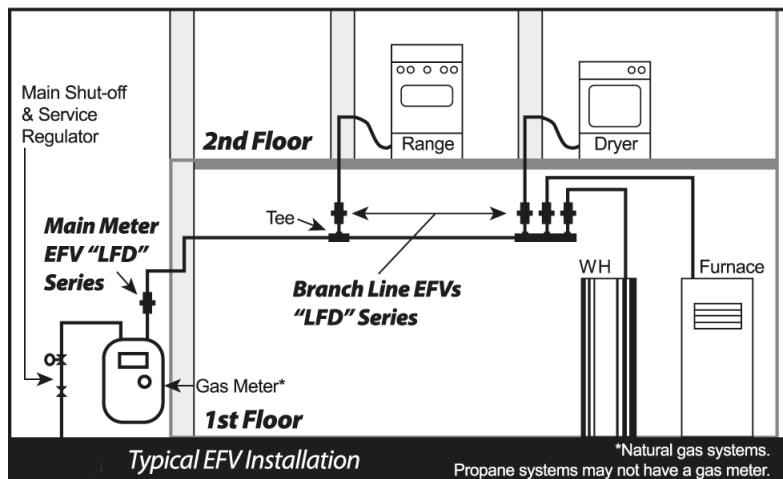

Figure: C-1
- Application. Determine the Type of EFV based on the application (See Figure: C-1):